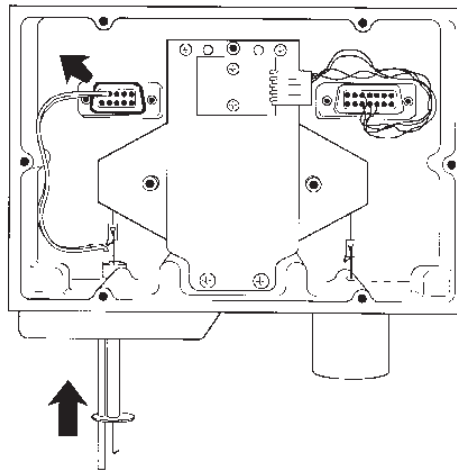

Figure 5.2
4. Push the thermocouple up from the bottom, to feed it back into the balance chamber (Figure 5.2).